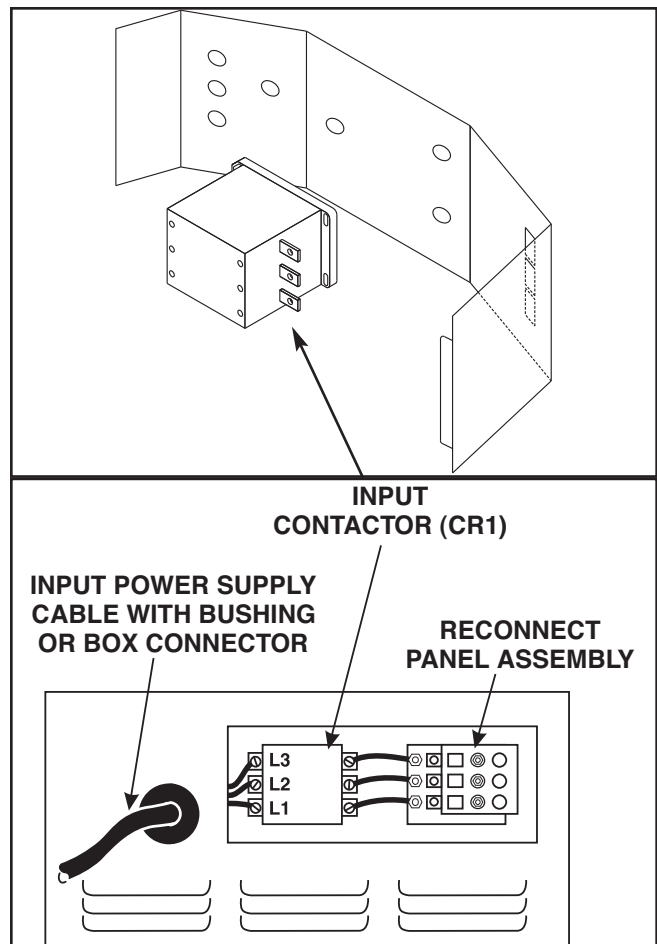

FIGURE A.3 - Input Power Supply Connections
5. Connect the three-phase AC power supply leads L1, L2, and L3 to the input contactor terminals in the Input Box Assembly by passing them thru the three aligned .50” diameter holes in the baffle and tighten them in the terminal connectors. Be sure to close the baffle by inserting the tab into the slot in the baffle. See Figure A.3.